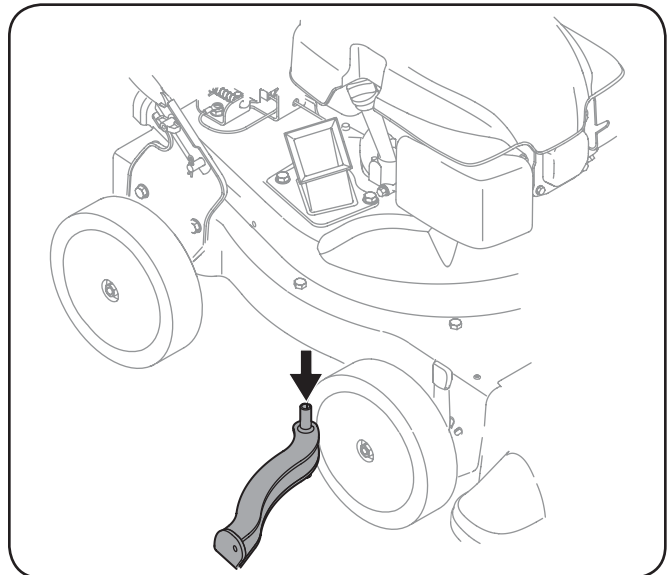

Figure 6-4
7. Remove and clean the screen by scraping or washing with water. See Fig. 6-4.